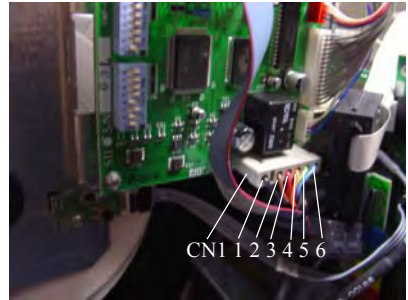
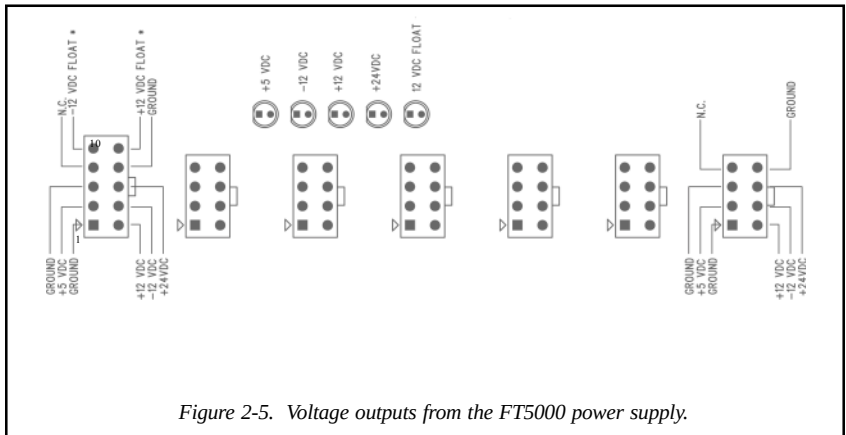

Figure 2-4. Voltage measurement points on the printer controller board.
Figure 2-5. Voltage outputs from the FT5000 power supply.
5. Refer to Figure 2-4. Make sure the DC voltages being applied at CN1 on the printer controller board are correct.
4. Use the red probe to measure the voltages on each pin on one the eight pin connectors on the power supply . The nominal reading for each of these voltages is shown in Figure 2-5. Measure the voltages at each pin on the ten pin connector. The nominal reading for each of these voltages is shown in Figure 2-4. Compare these readings with your measurements.